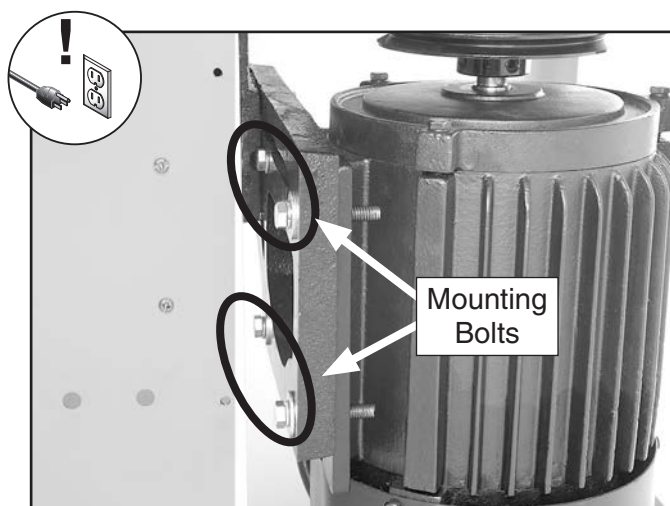

Figure 76. Motor mounting bolts location.
2. Remove the motor cover from the cabinet, then loosen the two motor mounting hex bolts that are behind the motor mount (see **Figure 76**).